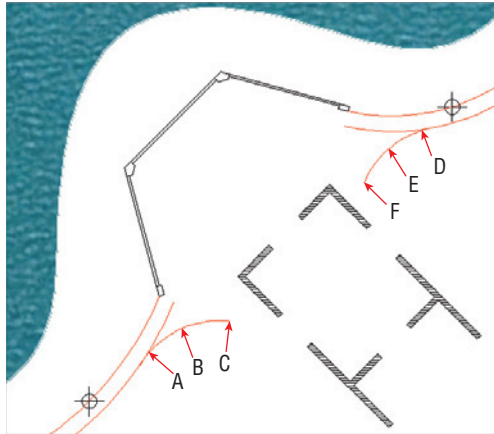

FIGURE 5.7 Drawing new short-radius arcs and snapping them along the longer existing arcs
14. Click the Arc tool in the Draw panel, hold Shift down and right-click, and choose Nearest from the context menu. Click points A, B, and C in Figure 5.7 to shape the arc as shown.
15. Press Enter twice to end, and restart the ARC command. Type **NEA** (for Nearest), press Enter, and click points D, E, and F in Figure 5.7.